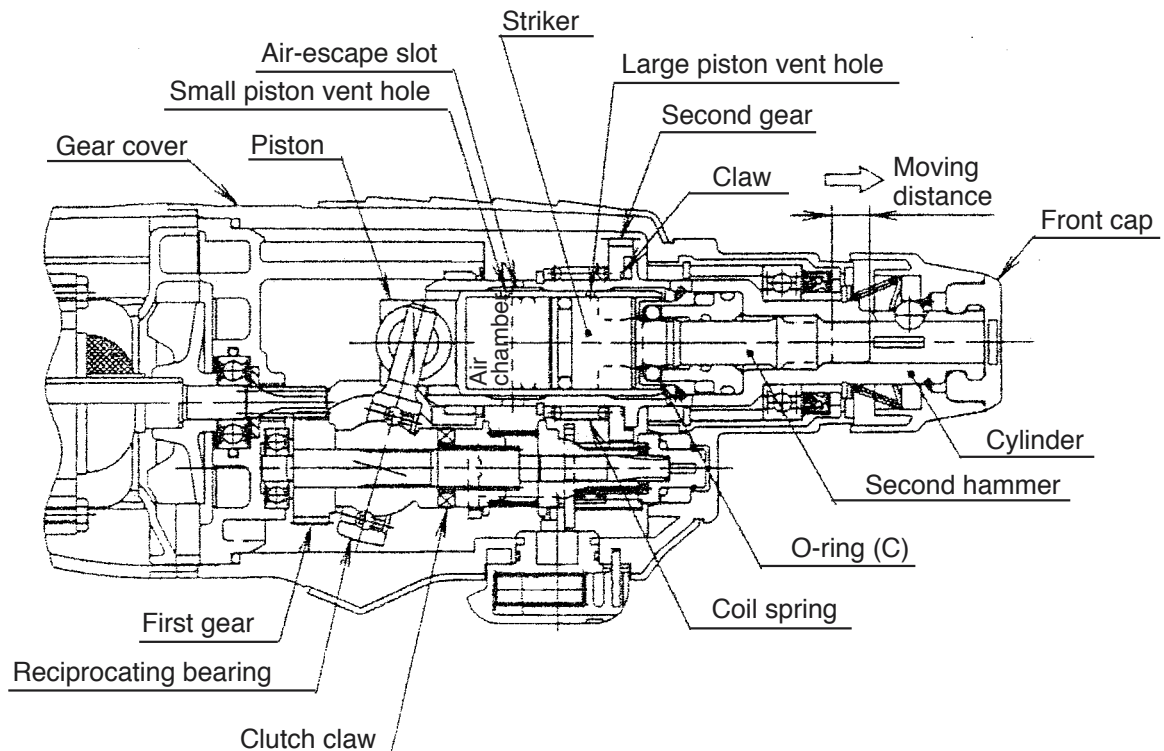

Fig. 4
The idle hammering prevention mechanism in the Model DH 24PC3 is different from that of conventional rotary hammers. When the drill bit is lifted from the work surface on completion of drilling, the second hammer moves to the position indicated by the continuous lines in Fig. 4 and the protruding (lip) portion at the tip of the striker is gripped by O-ring (C) mounted between the hammer holder and the damper holder. In this state, should the piston continue to move so that the small piston vent hole is blocked by the inner wall of the cylinder, the air in the air chamber will pass through the large piston vent hole and be released through the air-escape slot and large cylinder vent hole provided on the inner wall of the cylinder. Accordingly, there is no change in the air pressure within the air chamber, and movement of the striker (idle hammering operation) is prevented. The gripping force of O-ring (C) on the striker is so small in comparison with the conventional mouth system that practically no pressing force at all is required to restart the hammering operation.